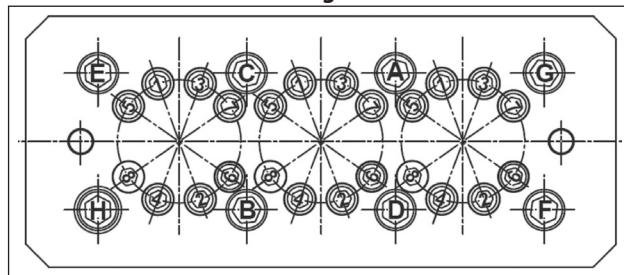

Fig. 51
- ** The head fixing screws must be tightened respecting the phases and order shown in the diagram in Fig. 51.
- *** The liner fixing screws must be tightened respecting the phases and order shown in the diagram in Fig. 51.